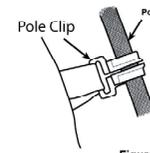

Figure 6
- Between the ends of the pole sleeves and the eyelets in the webbing there are pole clips that should now be attached to the poles (see figure 6). Where the long poles cross at either end there is a Velcro fastening tie, fasten these around the two poles.